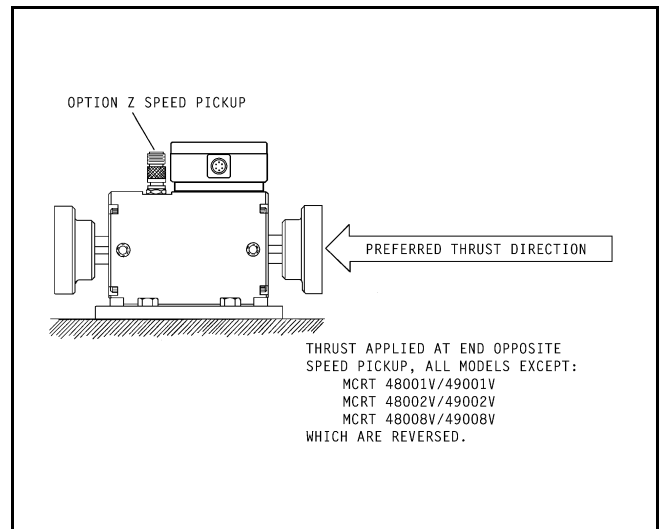

Figure 4. Preferred Thrust Path
Orienting a foot mounted torquemeter per Figure 4 will provide increased uni-directional thrust capacity. Because dynamic thrust loading is usually bi-directional, it's safest to limit bearing axial (thrust) loads per ¶C.3. **Orientation does not affect the thrust capacity of torquemeters installed as floating shafts.**
When axial bearing loads are *uni-directional*, the orientation illustrated in Figure 4 increases the uni-directional thrust rating by a factor of four (4). Remember, the *increased uni-directional rating applies only to optimum orientation of foot mounted torquemeters.*